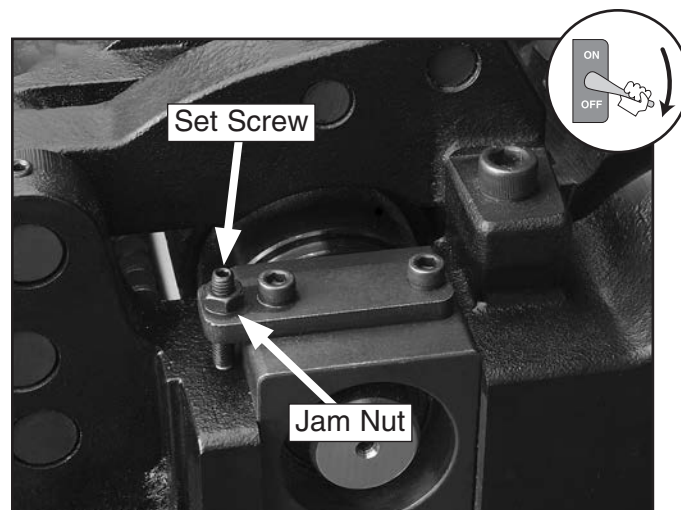

Figure 36. Infeed jam nut and set screw (right side shown).
4. Adjust the height of the infeed roller on the same side as the Rotacator to the specification given at the beginning of this procedure, using the zero setting of the Rotacator as a reference point. **Figure 36** shows the jam nut and set screw for adjusting the roller height.
9. Loosen the infeed roller jam nut and turn the set screw (see **Figure 36**) on each end of the infeed roller to raise it above the wood block.